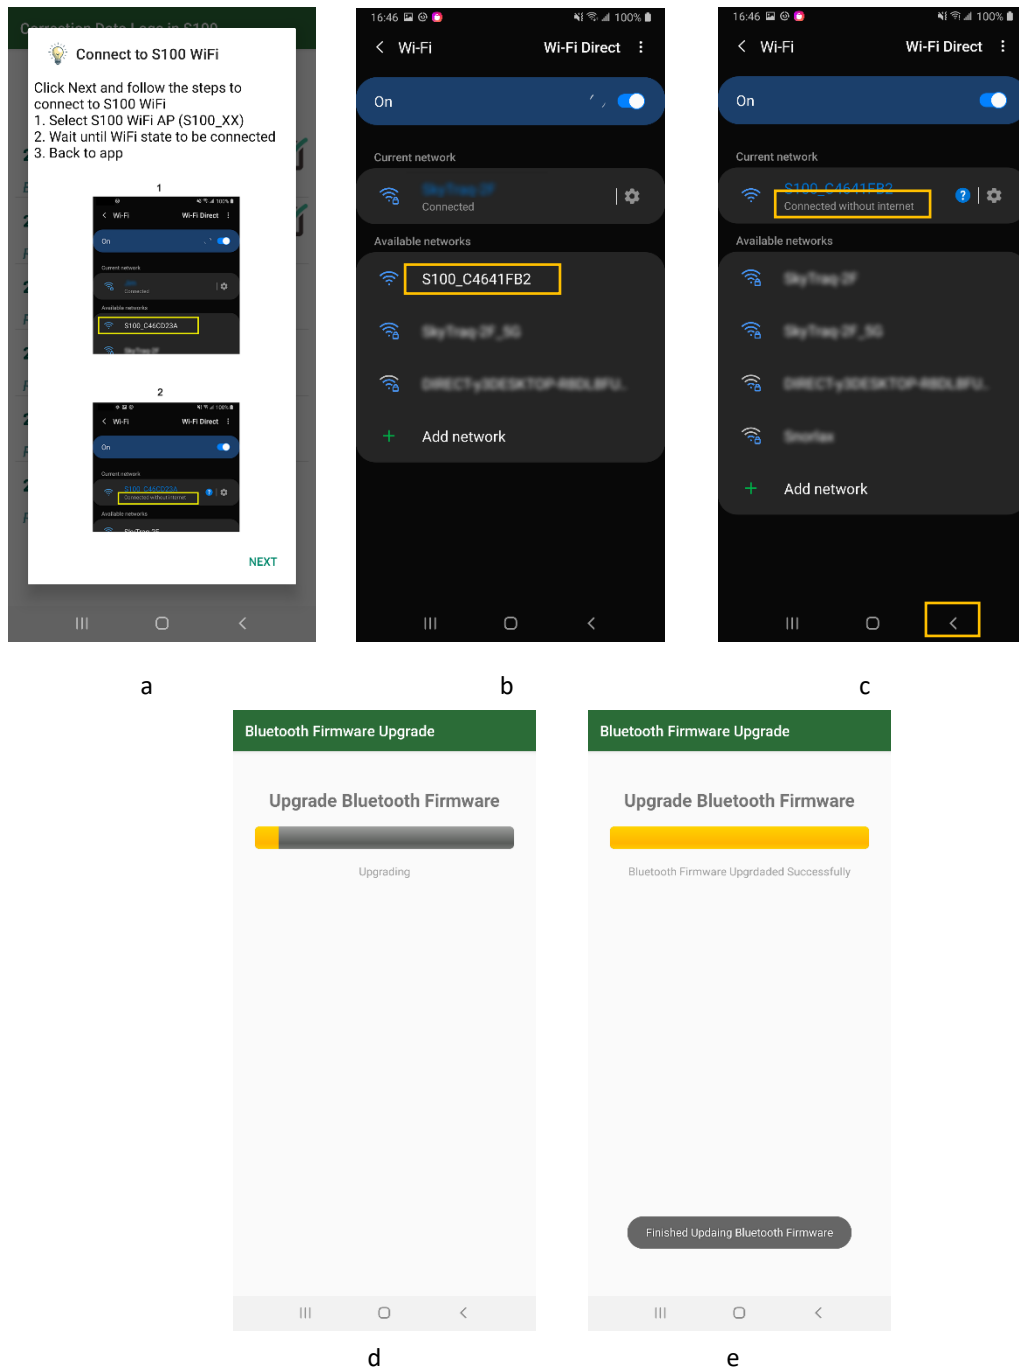

Figure 6-9
3. A pop-up window shows how to connect to S100 via WiFi connection. Read the instruction and click Next. See Figure 6-9 a.
4. You are brought to system's WiFi configuration screen. Select the WiFi AP whose name starts with S100 and make sure the phone is connected with it (without internet). Click Back button. See Figure 6-9 b c.
5. The Bluetooth firmware upgrade starts. You'll be prompted when it is in progress and finishes. See Figure 6-9 d e.